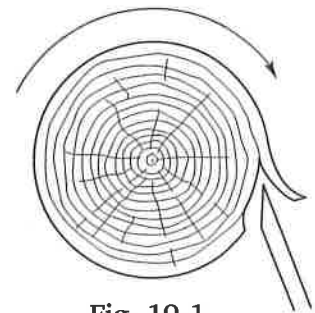

Fig. 19-1
- _____ 7. Fig. 19-1 shows the ___ method of cutting veneer.